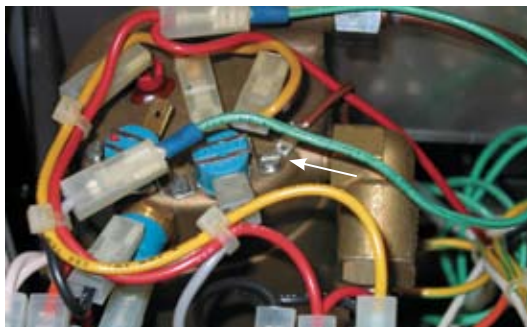

Fig. 1 Thermocouple washer installed under screw of steam thermostat.
3. Install the thermocouple. Now that Silvia's innards are exposed, you can see the bronze-colored boiler with many wires and two blue cylinders attached to it. The blue cylinders are the thermostats. The thermostats are attached to the boiler by three screws. Remove one of the screws, slip the washer end of the thermocouple under the "ear" of the thermostat, and then replace the screw through the thermostat and the thermocouple washer (see Fig. 1 next page). I test-mounted the thermocouple under the leftmost screw, but later moved it over to the rightmost screw, which is